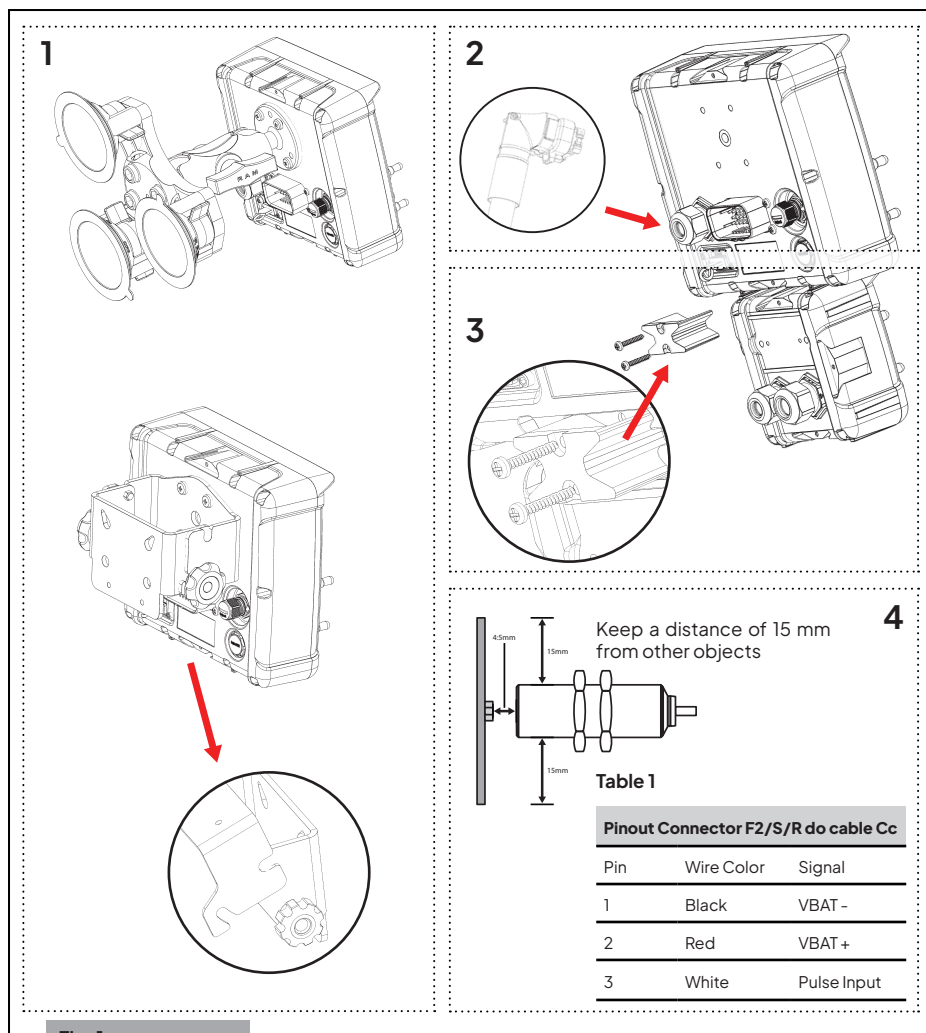

Fig. 1
• Wheel Speed Sensor (Figure 1)
1. Disconnect the cables from the control box (Figures 1 and 2).